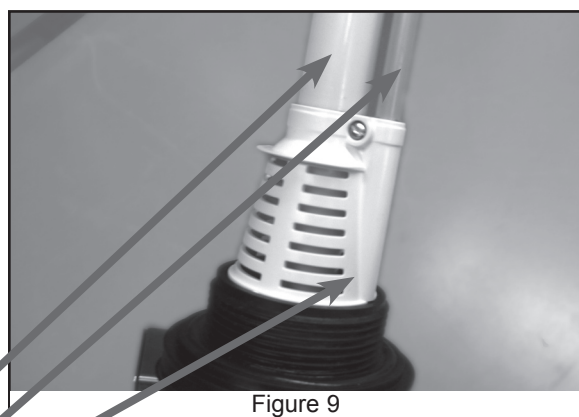

Figure 9
2. Insert the small grey rigid tube into the white disperser and up into the aeration head. Note: The tube must go into the disperser approximately 8-1/4", until it contacts the stop molded into the aeration head. Approximately 8-1/4" will remain sticking out of the white disperser. If more than this amount is sticking out of the disperser, the tube is not fully inserted into the aeration head. The tube can be marked with a pencil at 8-1/4" as a visual guide. See figure 9.
3. Locate the large tube provided and mark it 4-3/8" from the end. Insert it into the white disperser and aeration head until it contacts the stop molded into the aeration head. Approximately 4-3/8" of the tube will be in the white disperser when properly seated. Use the mark to verify it is inserted deep enough. See figure 9.